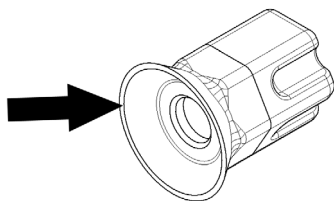

figure 13
**2 Every month:** check that the hexagonal joint gasket is not worn. If it is, replace the joint itself with an original spare part from the manufacturer (see figure 13).